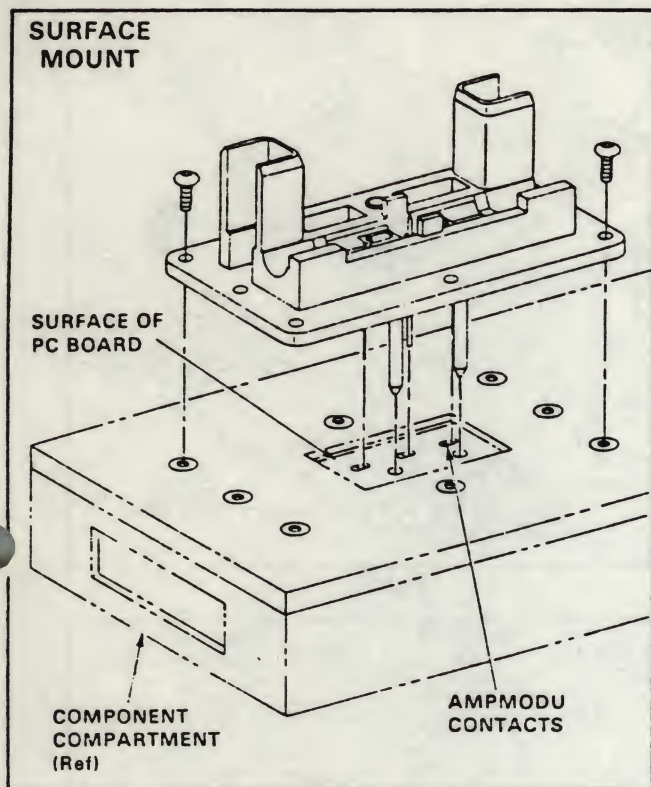
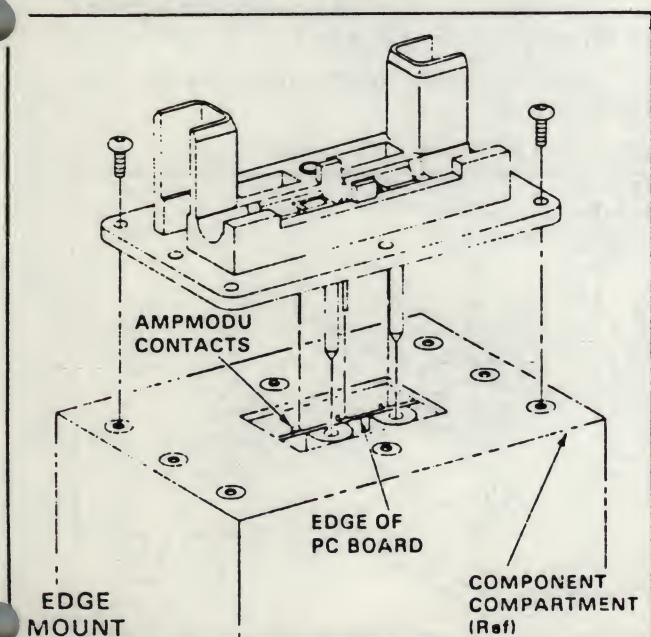

Fig. 3
Fig. 4
The tap can be edge or surface mounted to a pc board within the component compartment. We recommend AMPMODU★ Receptacle Contacts 87758-1 or 87768-1 for surface mounting (Figure 3) and 85863-4 or 85866-4 for edge mounting (Figure 4).
3. Mount the pc board so that it will accept the contacts and guide pins, AND so that the tap mounting holes will align, as shown in Figure 3 or 4.